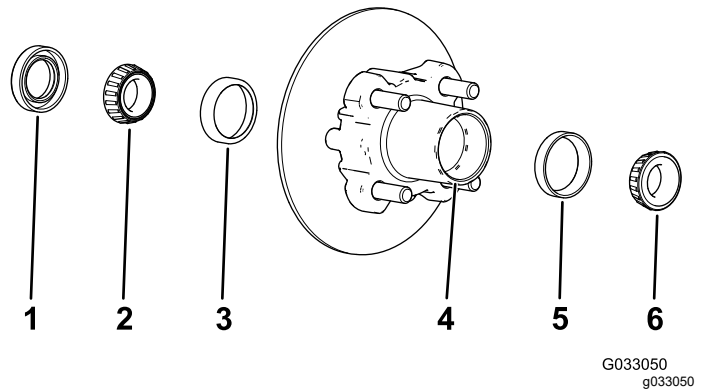

Figure 30
1. Remove the outboard bearing and bearing race from the hub (Figure 30).
2. Remove the seal, inboard bearing from the hub (Figure 30).
5. Clean the cavity of the hub of all grease, dirt, and debris (Figure 30).
7. Fill the cavity of hub 50 to 80% full of the specified grease (Figure 30).
8. Assemble the inboard bearing onto the race at the inboard side of the hub and install the seal (Figure 30).